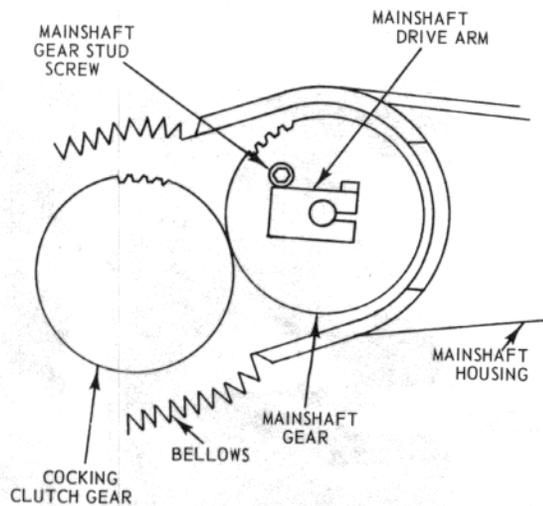
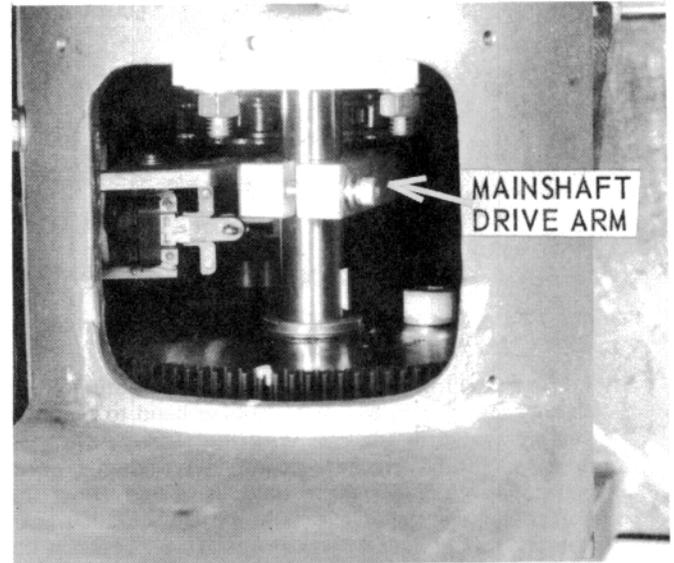

Figure 64 – Mainshaft Gear Stud Screw Contacting Mainshaft Drive Arm
Figure 65 – Mainshaft Drive Arm
- 5.1.5 Observe the amount of mainshaft gear rotation necessary to make the mainshaft gear stud screw contact the right side of the mainshaft drive arm (see Figure 64). The mainshaft gear stud should touch or nearly touch the mainshaft drive arm. The mainshaft drive gear is then in proper position when the trap is cocked.
- 5.1.7 Loosen the mainshaft drive arm lock screw and slide the mainshaft drive arm up so the key can be removed (see Figure 65).
- 5.1.8 The mainshaft gear can now be lifted out of mesh with the cocking clutch gear and rotated to the approximate position required (see Figure 64). It may be necessary to loosen the two clutch actuating bracket screws so the clutch actuating lever assembly can be tilted up to gain more vertical travel for the mainshaft gear (see Figure 65).